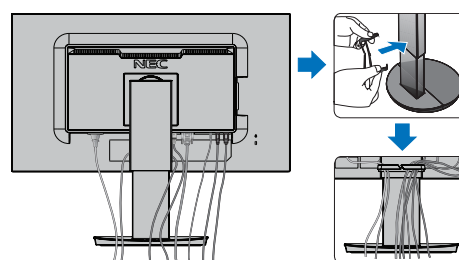
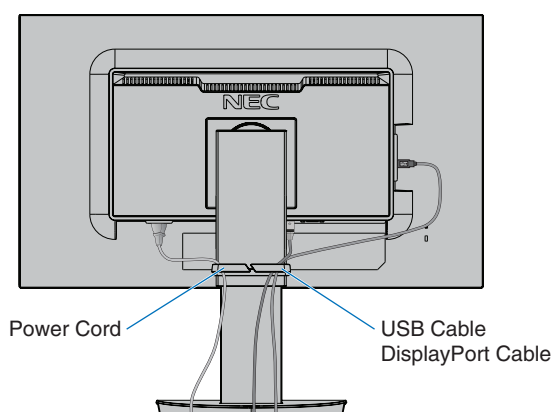
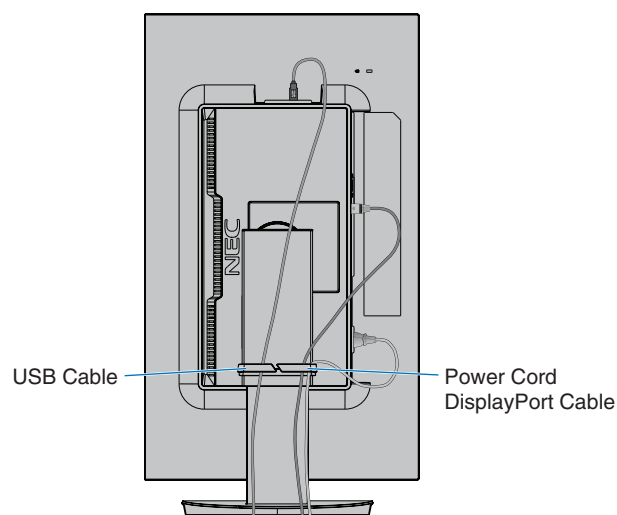

Figure C.2
Figure C.3
Figure C.4
- Place the cable holder onto the stand (**Figure C.2**). Place the cables in the cable holder firmly and evenly (**Figure C.3** and **Figure C.4**).